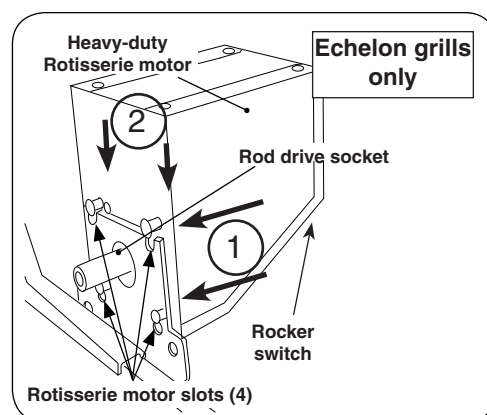

**Fig. 4-1** Install bracket to motor (3607G)
1. Remove the four screws from the motor casing. Discard the four washers. Align the motor bracket over the exposed holes. Replace and tighten the four screws. See Fig. 4-1.